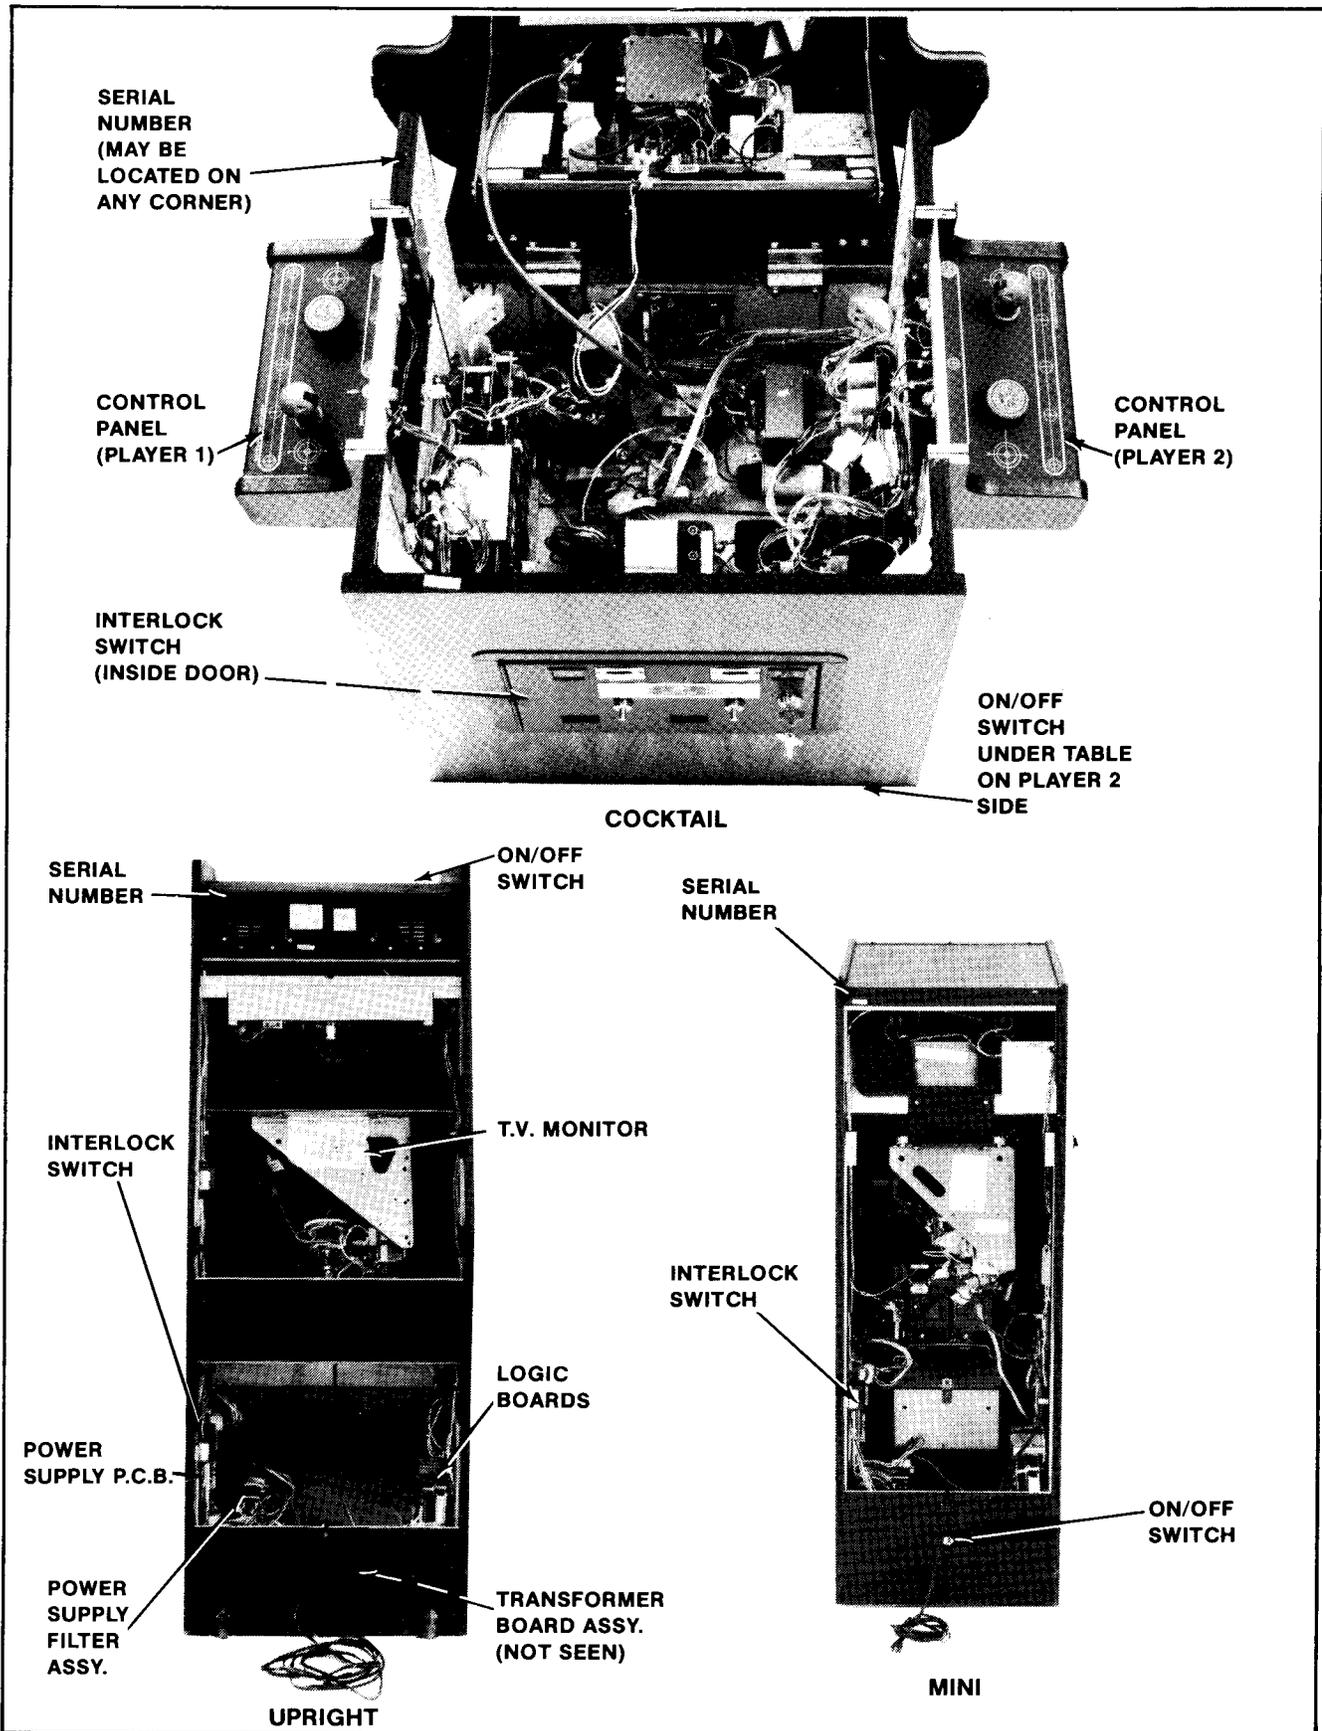

Figure 2-1 Location of Serial No., Interlock Switch, On/Off Switch, & Major Sub-Assys.
5. Open the cabinet and inspect the inside of the game for any signs of damage. See Figure 2-1.
- Make sure all printed circuit boards (P.C.B.'s) are firmly seated in their connectors. See Figure 2-1. These connectors are also keyed. The P.C.B.'s will only go into them one way without being damaged.
- Note the location of the games' serial number. See Figure 2-1.
- Check all major subassemblies to be sure they are mounted securely. These are called out in Figures 2-1 and 2-2.
3. Interlock and power ON/OFF switches. See Figure 2-1.
The game ON/OFF switches for all models are located as shown in Figure 2-1. Turn the game on and allow it to warm up a few minutes.